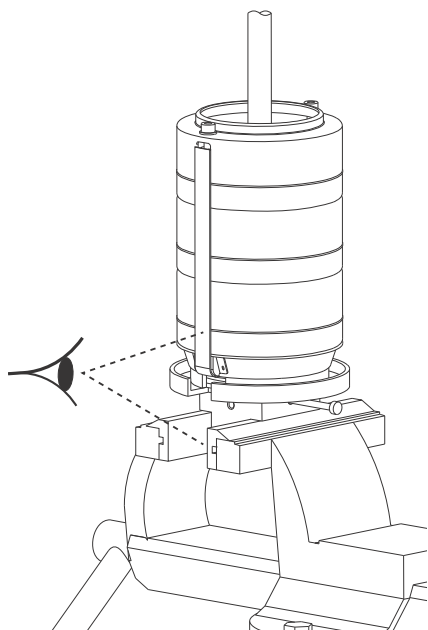

Fig. 2 Positioning the chamber stack in the holder
- Place the holder for dismantling and assembly in a vice and tighten it. See fig. 2 for right positioning.
- Pull the chamber stack out of the outer sleeves (pos. 55) and place it in the holder according to fig. 2. Make sure the chamber stack engages with the holder.